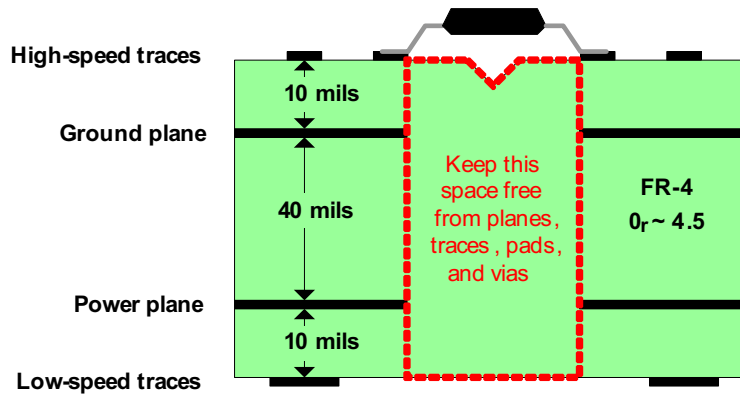

Figure 21. Recommended Layer Stack
On-chip IEC-ESD protection is good for laboratory and portable equipment but never sufficient for EFT and surge transients occurring in industrial environments. Therefore robust and reliable bus node design requires the use of external transient protection devices. Because ESD and EFT transients have a wide frequency bandwidth from approximately 3-MHz to 3-GHz, highfrequency layout techniques must be applied during PCB design. A minimum of four layers is required to accomplish a low EMI PCB design (see Figure 21).
- Apply 100-nF to 220-nF bypass capacitors as close as possible to the VCC-pins of transceiver, UART, controller ICs on the board (see Figure 21).
- Use at least two vias for VCC and ground connections of bypass capacitors and protection devices to minimize effective via-inductance (see Figure 21).
- Use 1-k Ω to 10-k Ω pullup and pulldown resistors for enable lines to limit noise currents in these lines during transient events (see Figure 21).
- Insert pulse-proof resistors into the A and B bus lines if the TVS clamping voltage is higher than the specified maximum voltage of the transceiver bus pins. These resistors limit the residual clamping current into the transceiver and prevent it from latching up (see Figure 21).